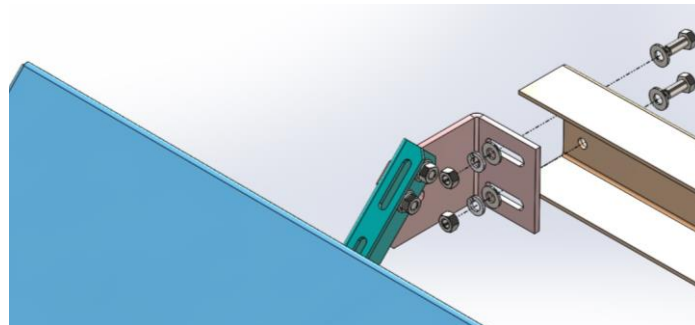

Figure 9. Exploded view of the right-side clip installed to the upper bucket bracket
- Place the solar panel assembly so the slots on the clips line up with holes inside of the bucket as shown in **Figure 9**. Bolt the clips to the bucket using 5/16 - 18 x 3/4" hex cap bolt and flat washer on one side, and a washer, lock washer and nut on the other. Apply a drop of threadlocker to each bolt and tighten the bolts to **12 ft-lbs**.